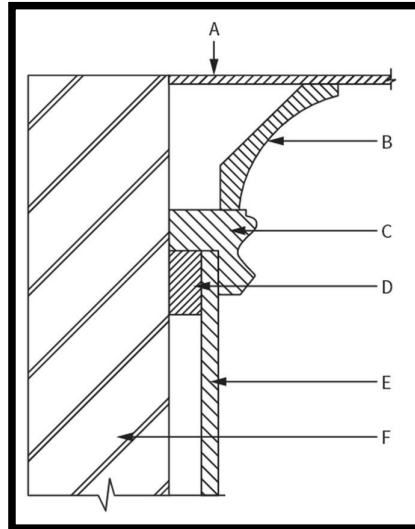

FIGURE 4.6
- 4.6 FIGURE 4.6 below shows a vertical sectional view through the top of a wall panel.